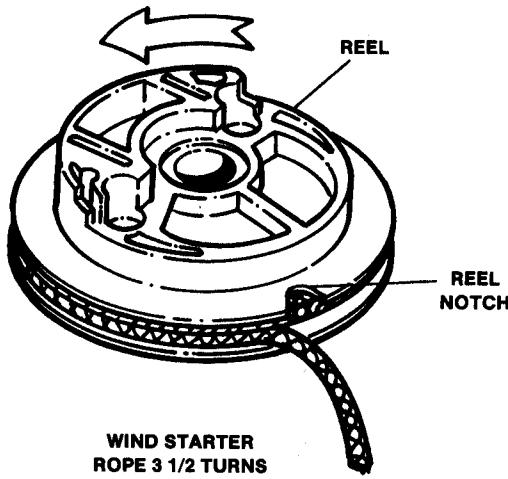

FIGURE 5.6
D. Wind starter rope on reel in direction of arrow shown in Figure 5.6. After $3\frac{1}{2}$ rounds, bring the rope out at the reel notch.